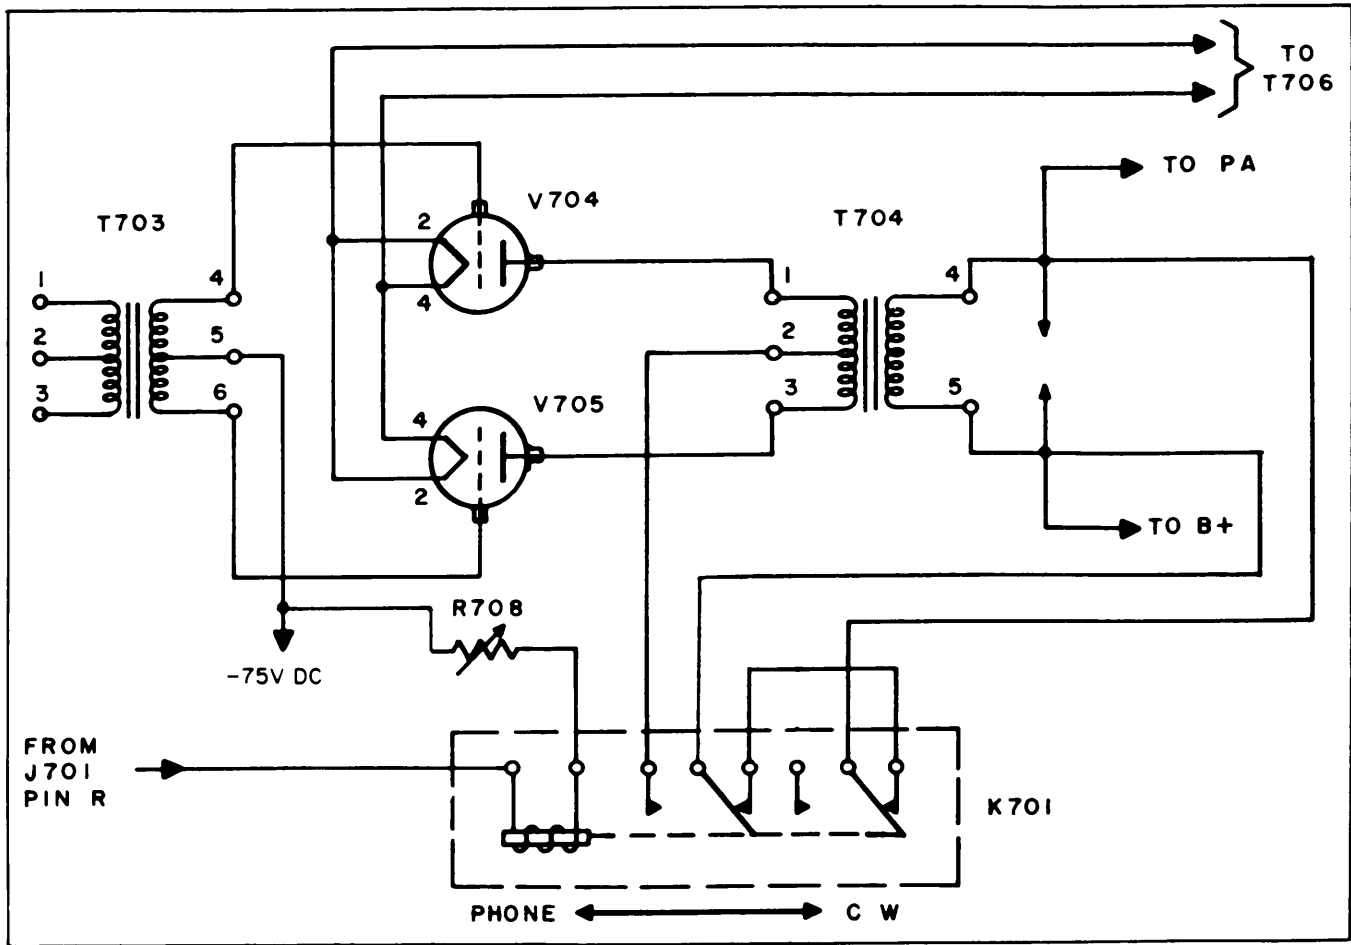

Figure 4-20. Push-Pull Modulator V704, V705, Simplified Schematic Diagram
(3) PUSH-PULL MODULATOR V704 and V705. - The audio developed across T703 is applied to the push-pull grids of modulator V704 and V705. (See figure 4-20.) With shorting relay K701 in its normally deenergized position, the secondary of T704 is shorted and the high-voltage input from the RTP-2 power supply is applied to the plates of power amplifiers V101 and V102 in the power amplifier section of the RTF-2. When the MODE switch on the RTP-2 power supply is placed in the PHONE position, K701 energizes, removes the short from T704, and places the secondary of T704 in series with the plate supply circuit of V101 and V102. The voltage applied to the PA plates varies in accordance with the audio signal developed in the secondary of T704. Because K701 receives energizing potential from the bias voltage used by V704 and V705, loss of bias potential inhibits phone operation and protects the modulator tubes. To protect T704 in the absence of load, a spark gap (0.203 inch) is installed across the secondary of T704. Potentiometer